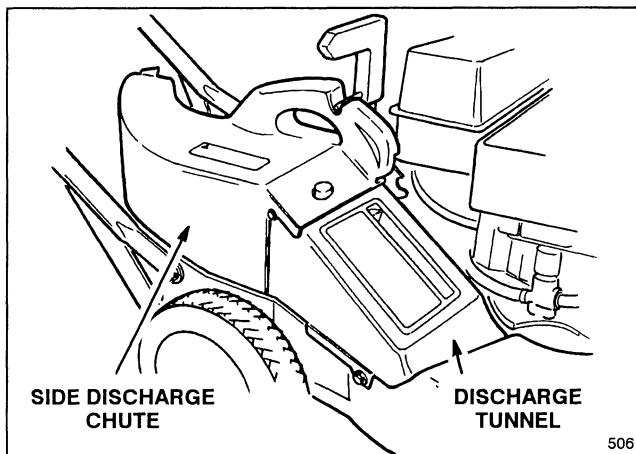

Figure 17
- 2. Recycler® Side Discharge Kit, Model No. 59189**—Install discharge tunnel and rear mounted side discharge chute to convert Recycler® mower to a side discharge mower (Fig. 17). Includes discharge tunnel plug.